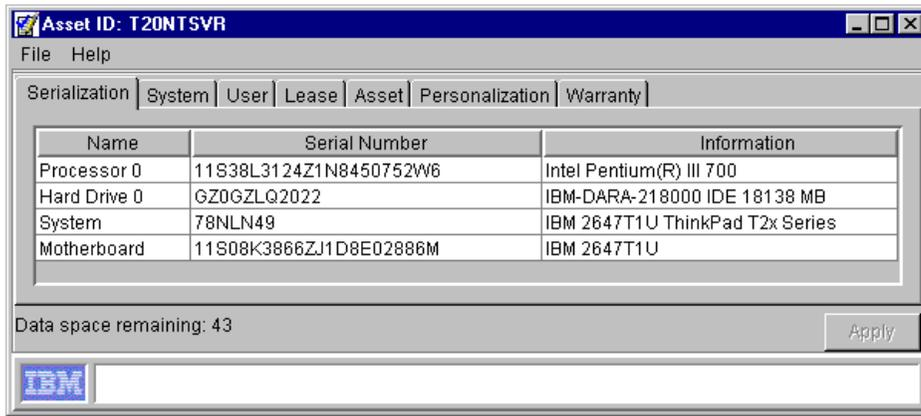

Figure 88. Asset ID task
Figure 88 appears:
- If the Data space remaining field (see Figure 88 on page 117) is less than 200, but there is no RFID value in the Asset tab, then there is only partial Asset ID support (the EEPROM is installed, but not the antenna)